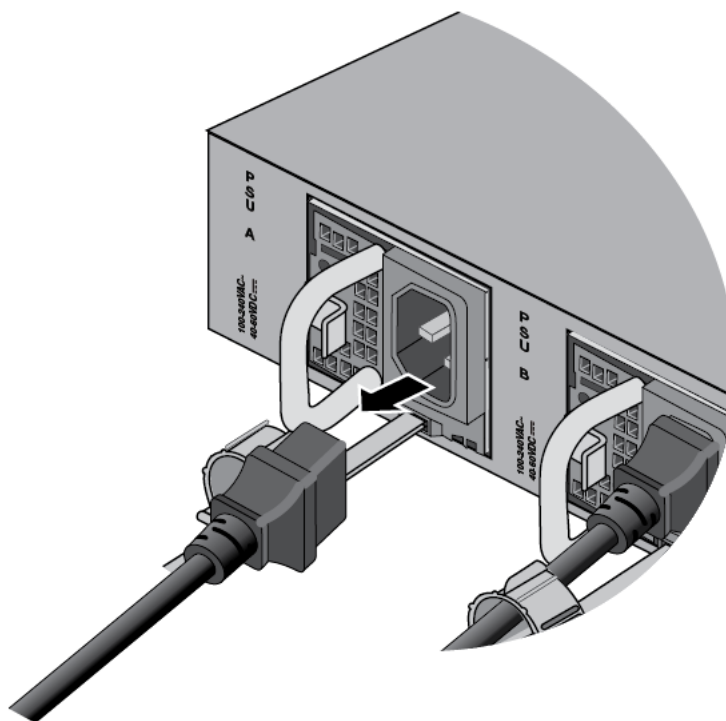

Figure 143. Disconnecting the Power Cord from the Power Supply
3. Disconnect the power cord from the power supply. Refer to Figure 143.